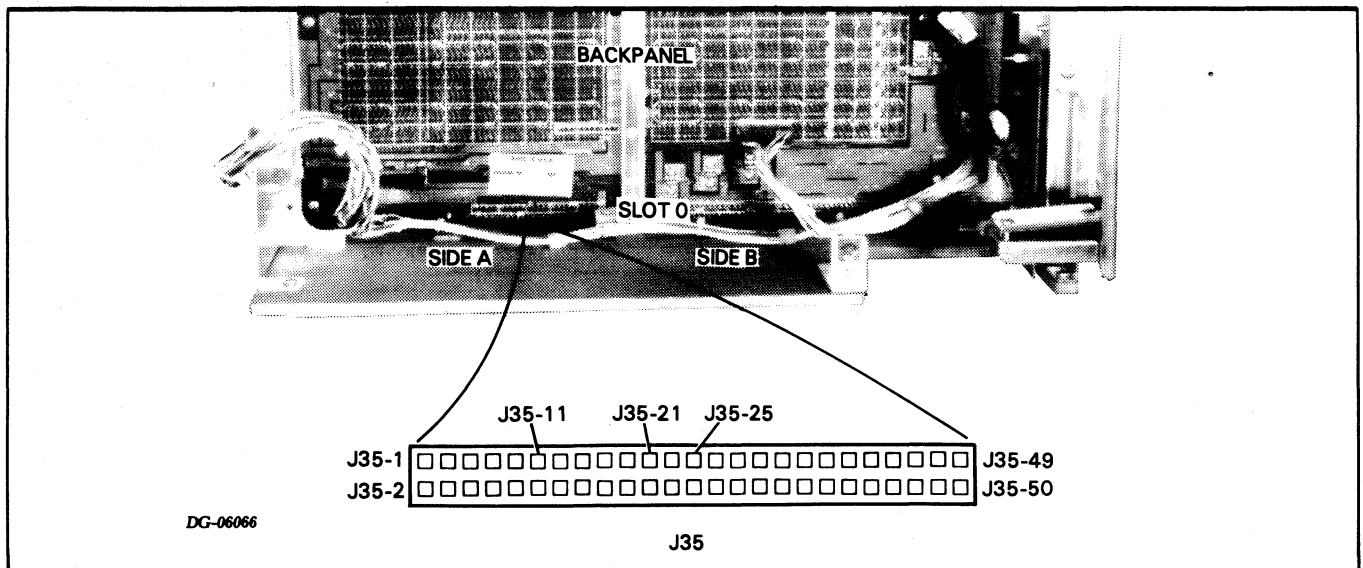

Figure 6.7 JACK J35
4. Short **MEMD** at J35-21 to **GND** at J35-1 (see Figure 6.7).
- Check the -11V voltage at J35-25 (see Figure 6.7).
- b. If the light is NOT on, check the ONLED-P voltage at J35-11 (see Figure 6.7).
2. Check the **+12 MEM** voltage at location J35-3 (see Figure 6.7).